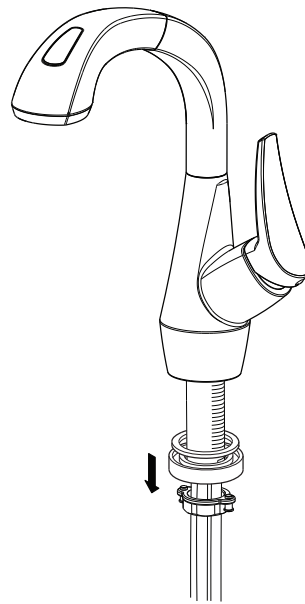

Fig. 1.3
- Unscrew and remove the **mounting nut**, the **metal washer** and the **rubber washer**. To make it easier, remove the **hand sprayer hose** from these pieces first (fig. 1.3).